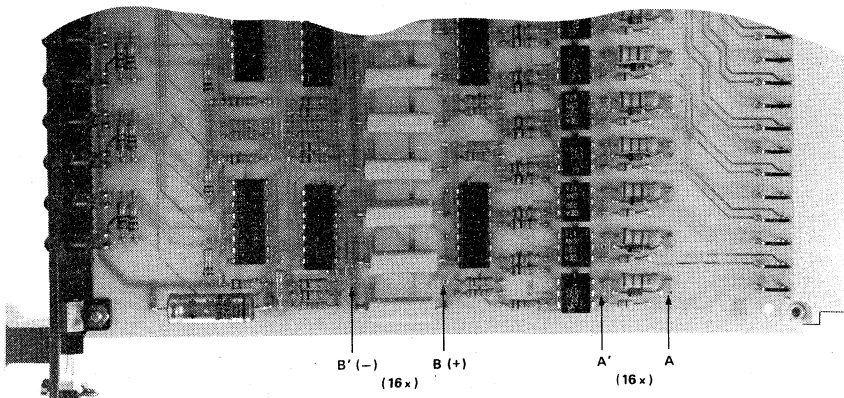

Fig. 3 Part of the printed-wiring board, showing the connecting points for the additional delay capacitors and the resistors for 5 V-level operation.
The delay time of the delay circuit can be increased by inserting capacitors (approx. 0,015 $\mu\text{F/ms}$) between connecting points B and B' (Fig. 3).
- For 5 V-level operation a resistor of $360\ \Omega \pm 5\%$, style CR25, has to be connected to each input stage between connecting points A and A' (Fig. 3).